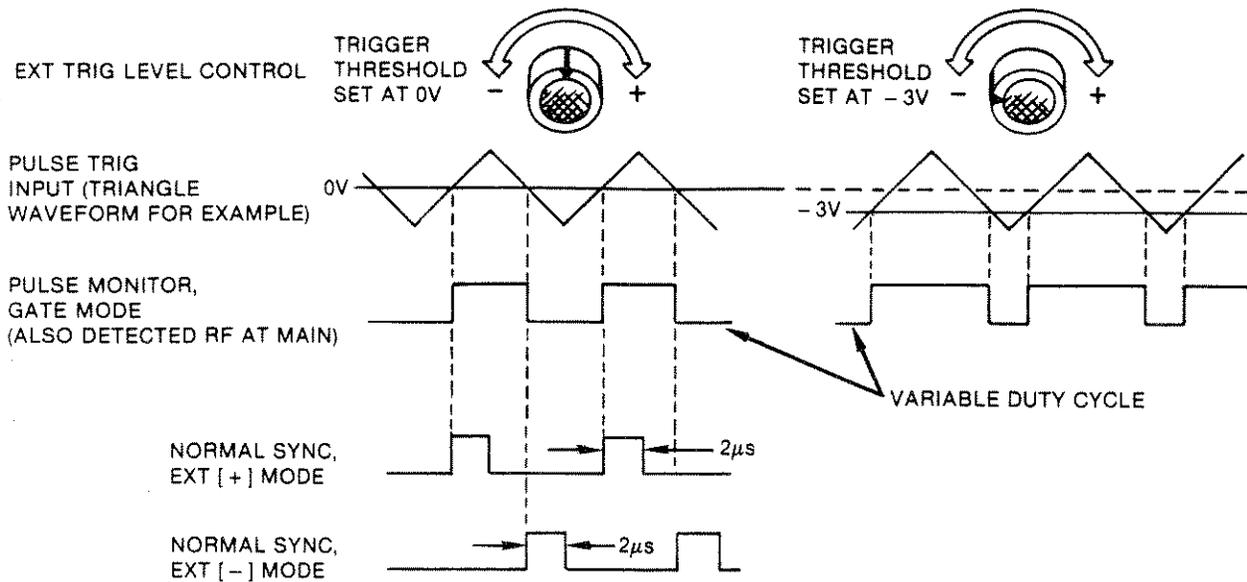

Figure 3-3. Effect of External Trigger Level Control
(2) Ref: Figure 3-3
- 27 EXT TRIG LEVEL Knob** — Determines the threshold voltage of the input waveform **28** which will trigger the delay and width or external gate circuitry ( $\pm 14\text{V}$  range). See Figure 3-3.